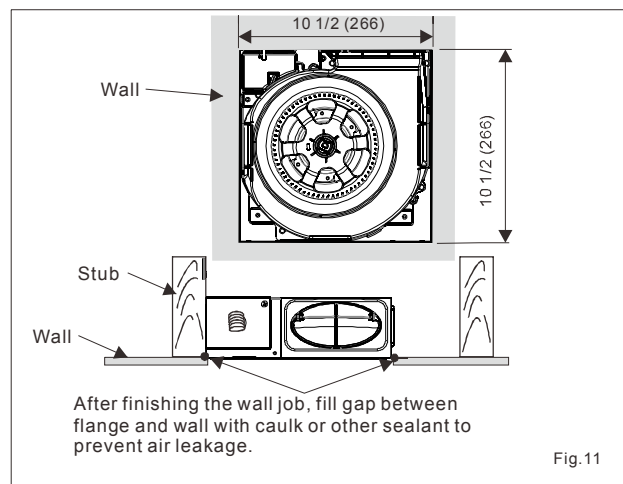

Fig.11
4. Finish the wall work. Wall hole should be aligned with the inside edge of the flange. (Fig.11)